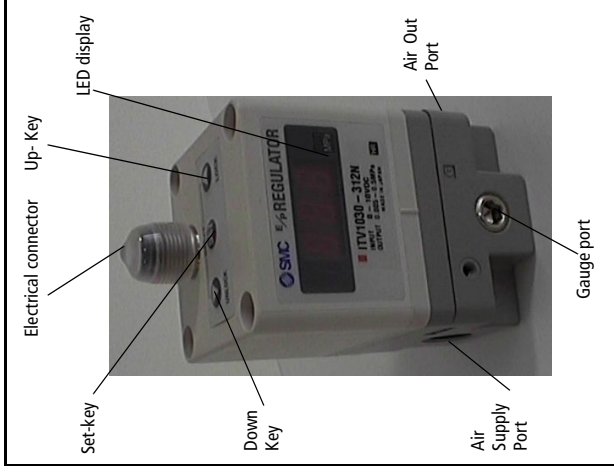

Fig 1 - Key features of an ITV
Push 'Up' and 'Down' keys (Fig 1) together for longer than 3 seconds
1. Push 'Down' key (Fig 1) for longer than 2 seconds.
3. Push 'Set' key (Fig 1) to unlock.
Note: To cancel push 'up' key (Fig 1).
1. Push 'Up' key (Fig 1) for longer than 2 seconds.
3. Push 'Set' key (Fig 1) to lock.
Note: To cancel push 'Down' key (Fig 1).
If an abnormality is detected by the ITV1000 the LED display (Fig 1) will show 'Er' followed by a code number. Isolate the power supply and ascertain and solve the problem. Re-instate power supply after correcting fault.